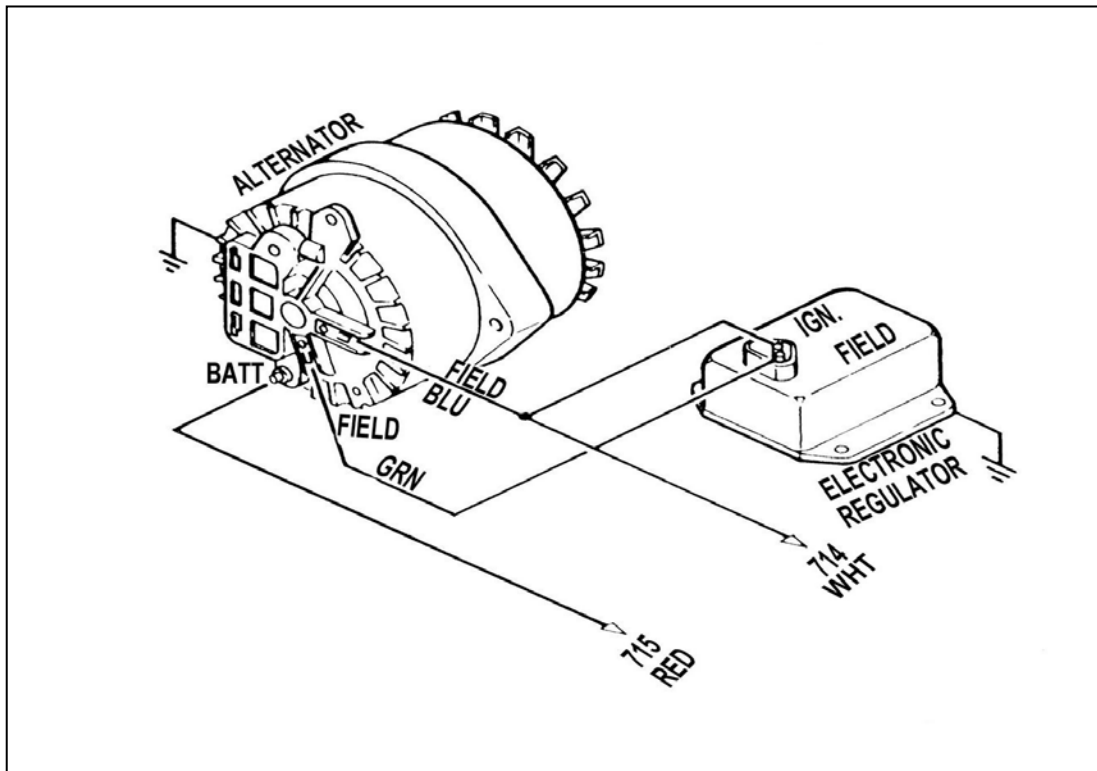

Figure 11.1 Mopar Alternator
11.1 Mopar Alternator. See Figure 11.1.
Note: Your Alternator may not appear exactly as represented in Figure 11.1. The circuits are wired the same way, though.
- 11.1.1** Mopar uses one of two kinds of voltage regulators: An electronic regulator and a mechanical one. The electronic voltage regulator is represented in **Figure 11.1**. It does not matter how the two terminals are connected, so long as they are BOTH connected. The mechanical regulator has terminals marked "F" (Field) and "I" (Ignition). In contrast to the electronic regulator, it DOES make a difference how these are connected.
- 11.1.2** Connect ENGINE SECTION A wire #714 (wht) to the Alternator Field (F) terminal as shown in **Figure 11.1**. Connect ENGINE SECTION A wire #715 (red) to the Alternator Output lug (Bat).
- 11.1.4** Connect a 14-gauge wire from the other Alternator Field terminal (as shown in **Figure 11-1**) to the second terminal of the ELECTRONIC Voltage Regulator OR terminal F of the MECHANICAL Voltage Regulator. On existing Mopar harnesses, this would be a green wire. Also connect a 14-gauge wire from this terminal to chassis ground.